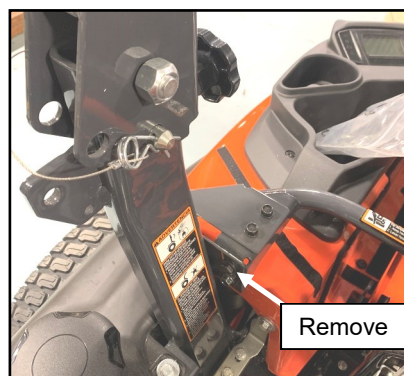

Fig. 3.3 (Remove upper bolt)
- 3.3 See fig. 3.3. Remove the upper bolt on the cross hose protector as shown and discard.